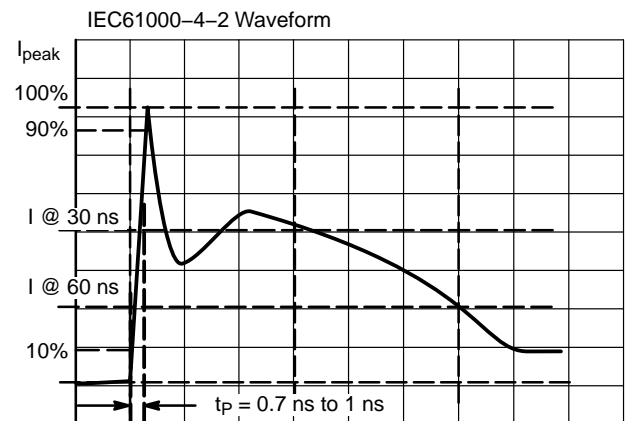

Figure 9. IEC61000-4-2 Spec
- For test procedure see Figures 9 and 10